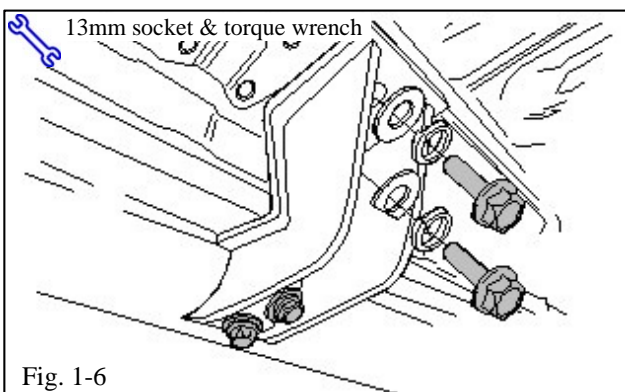

Fig. 1-6
⚠ (f) Tighten and torque all six (6) or four (4) flange bolts on the vehicle to 19.5 Nm (14.5 ft-lbf) (Fig. 1-6).
(g) Tighten and torque all six (6) or four (4) flange bolts on the tube to 19.5 Nm (14.5 ft-lbf) (Fig. 1-6).